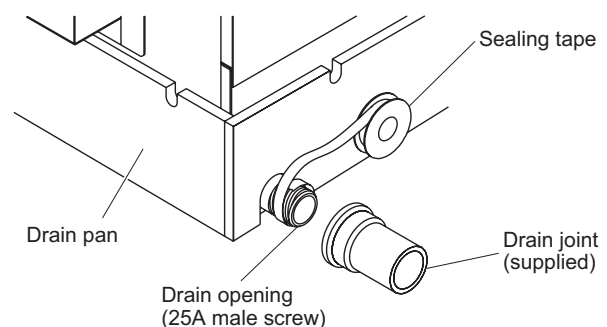
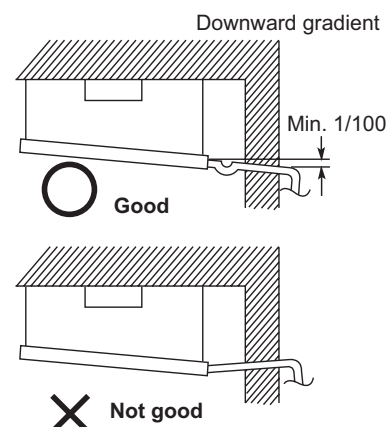

Fig. 2-119
Fig. 2-120
- (1) Prepare standard hard PVC pipe (O.D. 32 mm) for the drain and use the supplied drain socket to prevent water leaks. The PVC pipe must be purchased separately. When doing this, apply adhesive for the PVC pipe at the connection point.
- (2) If connecting a drain joint (supplied) to the threaded drain port, first wrap the drain port threads with sealing tape, then connect the joint. (Fig. 2-119)
- (3) After connecting the drain pipe securely, wrap insulator (field supply) around the pipe.
- (4) Ensure the drain pipe has a downward gradient (1/100 or more) and prepare traps as indicated in Fig. 2-120.